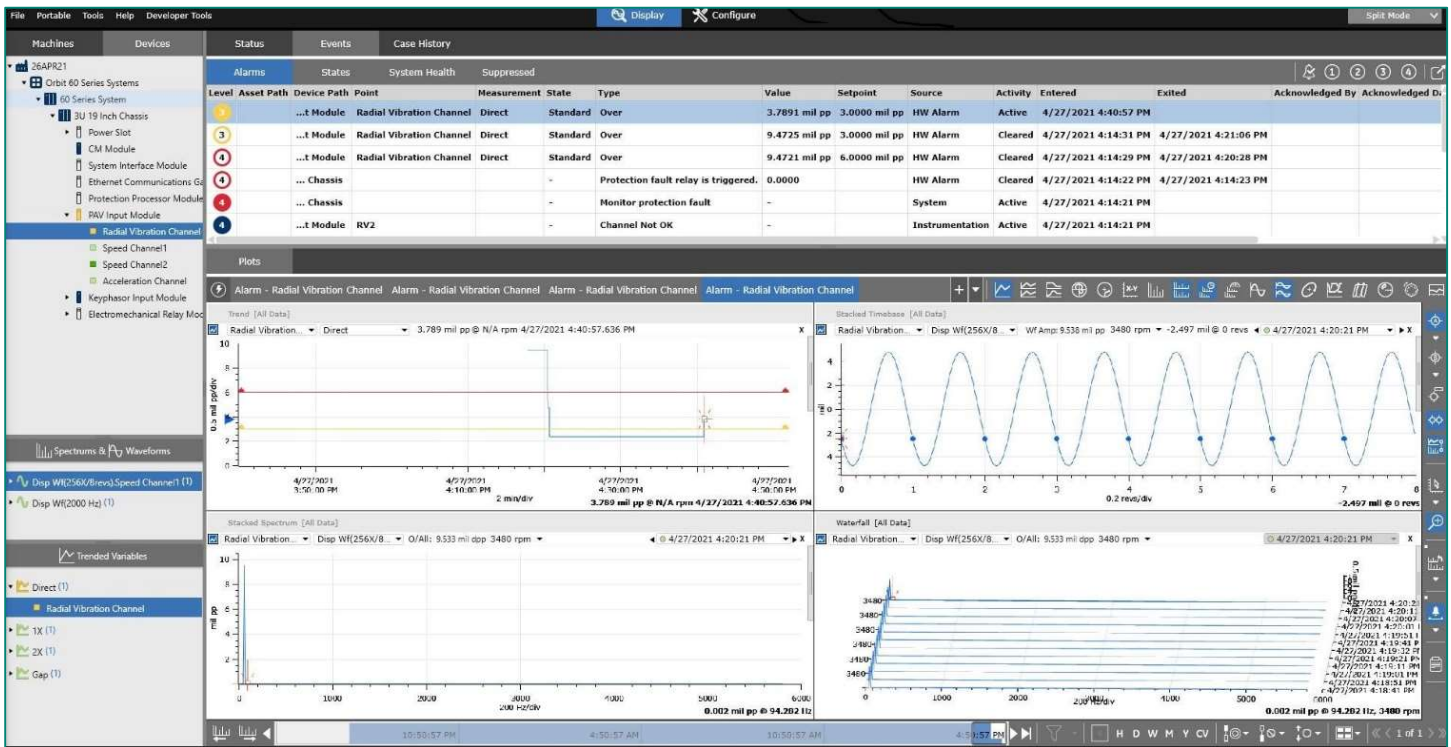

Figure 1: Orbit 60 Series Device and Data in Display Workspace of System 1
- Utilize the System 1 Display workspace to manage the health of machines monitored by the Orbit 60 Device, as well as the Instrumentation health of the device itself (Figure 1).